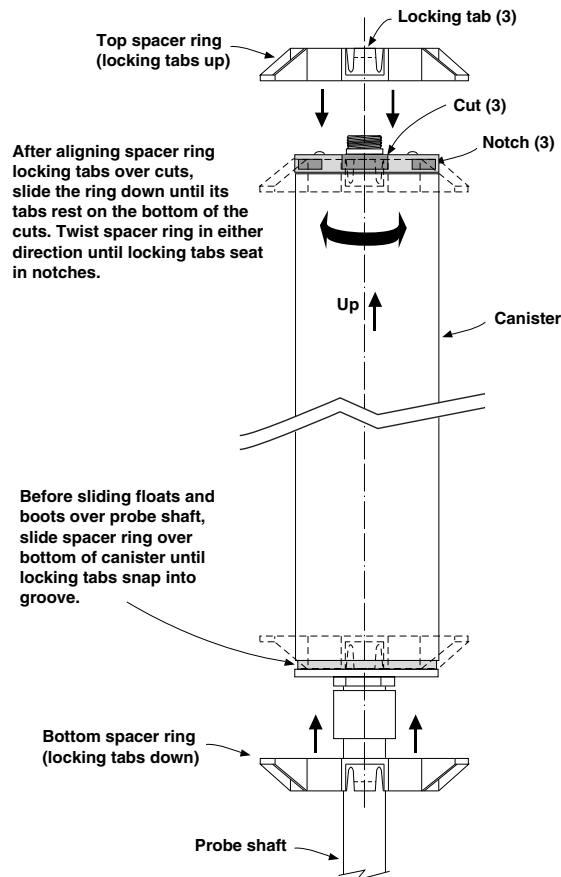

Figure 3. Installing Mag Probe Canister Spacer Rings
2. Following the instructions in Figure 3, install the proper spacer rings (3" or 4") onto the probe canister (although outwardly different, both the 3" and 4" rings are attached in the same way onto the canister).